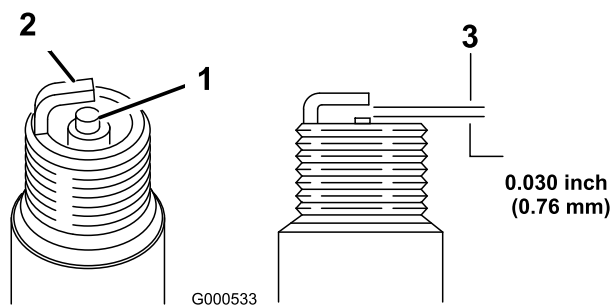

Figure 28
5. Set the gap on the plug to 0.030 inch (0.76 mm) (Figure 28).